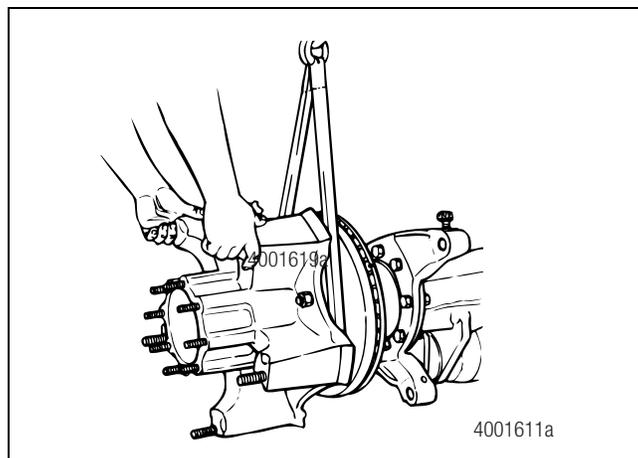

Figure 8.13
7. Use a strap or other lifting device to support the disc and wheel or hub. Figure 8.13.